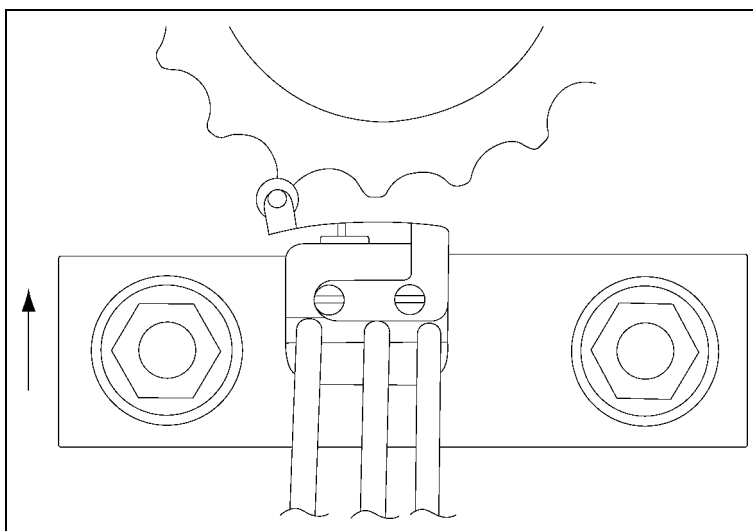

Figure 5B *Stir-Guard Microswitch Adjustment*
If adjustment of the microswitch roller actuator becomes necessary, turn OFF the power to the swivel at the switch box. Remove the right swivel box cover and loosen the nuts on the roller switch plate. Rotate the swivel block so the switch roller is riding on the peak of a swivel cog. *(See Figure 5B.)* Slide the roller switch plate slowly in until the microswitch clicks, then move the switch an additional 1/16" and tighten the nuts. Rotate the swivel to assure the switch clicks "ON" and "OFF" as the roller rides in and out on the swivel cog. This is necessary for a pulse to be sent to the Stir-Guard timer. *(See Figure 5B.)*
2. Remove the two (2) long swivel covers on the Stir-Ator yoke swivel housing.
3. Remove the two (2) self-tapping screws on the top of the swivel yoke enclosure. Position the solid state module #2EL1207 inside the top of the yoke swivel housing with the five (5) terminals on the module pointing toward the Stir-Ator swivel. Bolt the module onto the yoke where the self-tapping screws were removed using two (2) #8 x 1/2" screws and lock nuts.
5. Place the two (2) small spacers onto the threaded studs welded in the swivel housing, next place the Stir-Guard switch and mounting plate onto the studs with the roller switch toward the cog swivel ring.
6. Adjust by putting the switch roller on the peak of a swivel cog. *(See Figure 5B on Page 44.)* Move the switch plate slowly inward until the roller switch clicks. After the click, move an additional 1/16", then tighten. Rotate the swivel, be sure the roller switch rides in and out freely and the switch clicks ON and OFF, as it passes over each cog. This is necessary for a pulse to be sent to the Stir-Guard timer. Without a pulse every 45 minutes, the Stir-Guard will shutdown the Stir-Ator operation.